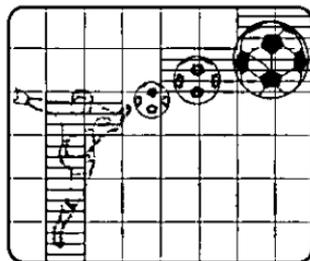

Fig 59
- Move the cursor to the "DISPLAY MODE" Press the Set Switch (9) to select the demonstration mode The 48 Mask Areas start to blink when brightness changes are detected in the individual zones as shown in Fig 59